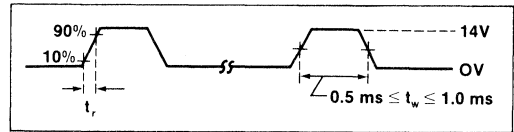

Figure 3. Protect Programming Pulse
- Step 2: Taking one pin at a time, apply a protect programming pulse (Figure 3) to each user-bus bit ( $\text{UD0-UD7}$ )—refer to Table 3 for min/max specifications pertaining to voltage and current.